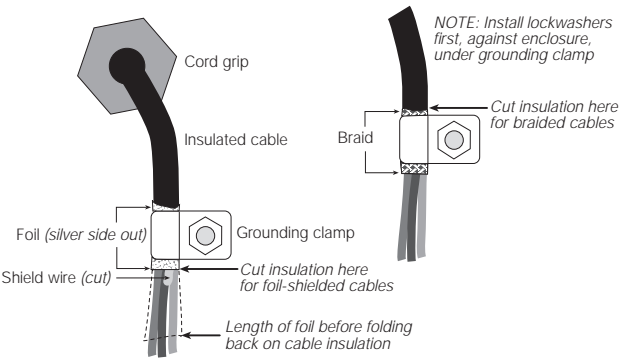

Figure 2. Grounding Clamp Attachment for Foil-Shielded and Braided Cabling
- For cables with foil shielding, strip insulation and foil from the cable half an inch (15 mm) past the grounding clamp (see Figure 2). Fold the foil shield back on the cable where the cable passes through the clamp. Ensure silver (conductive) side of foil is turned outward for contact with the grounding clamp.
- Route stripped cables through cord grips and clamps. Ensure shields contact grounding clamps as shown in Figure 2. Tighten grounding clamp nuts.